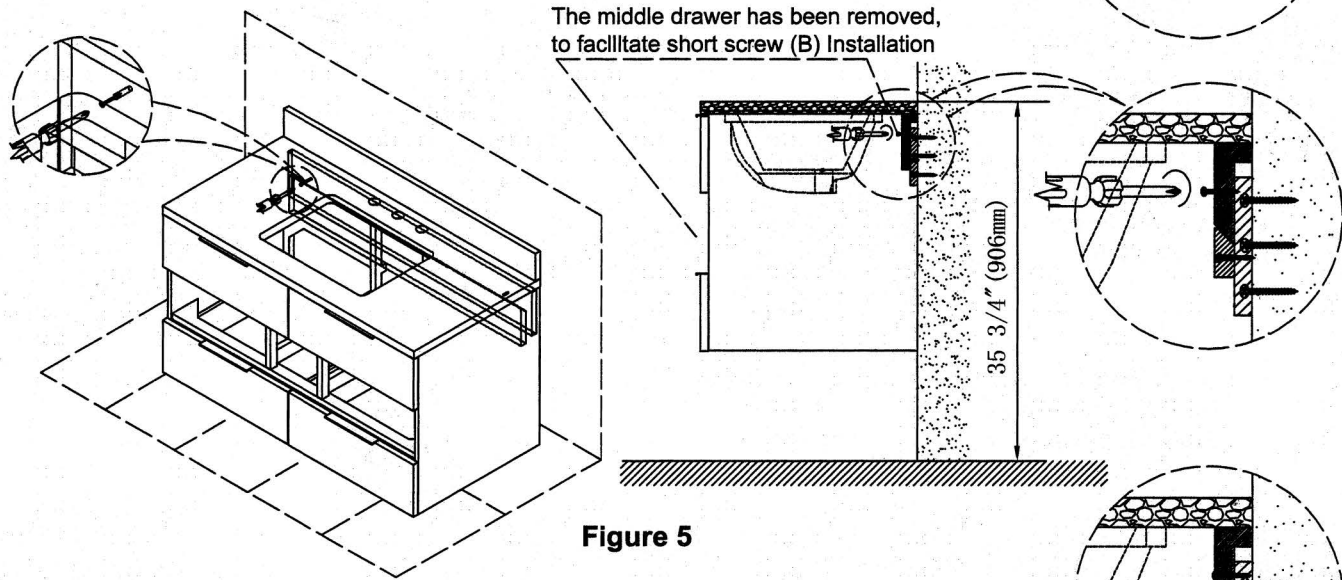

Figure 5
-Drive short screws (B) through the two holes located on the vanity hanging rail . See Figure 5.